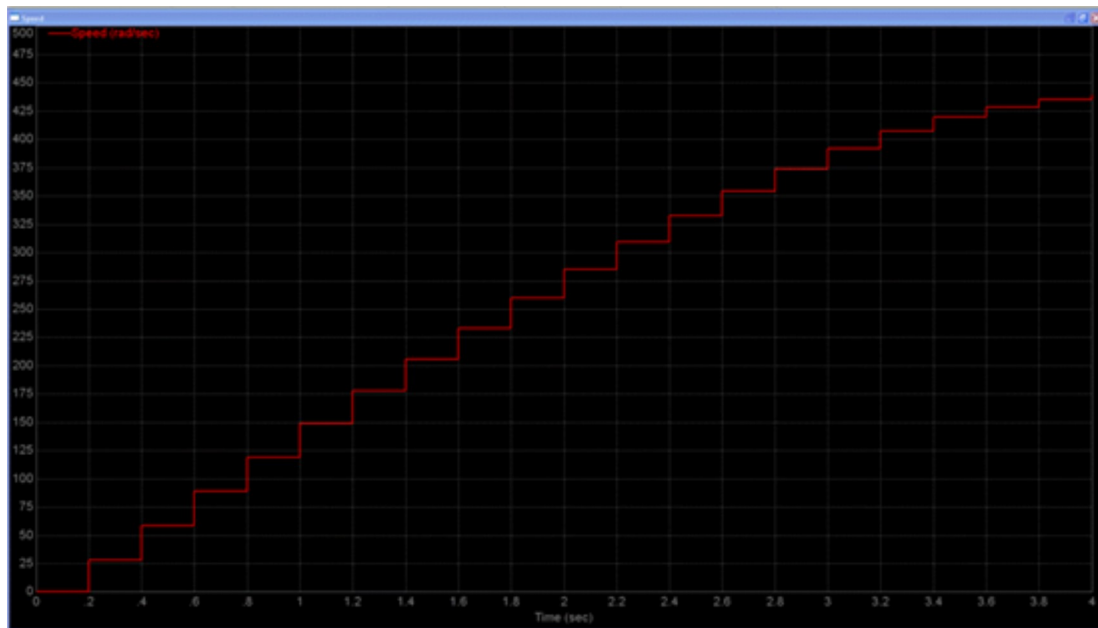
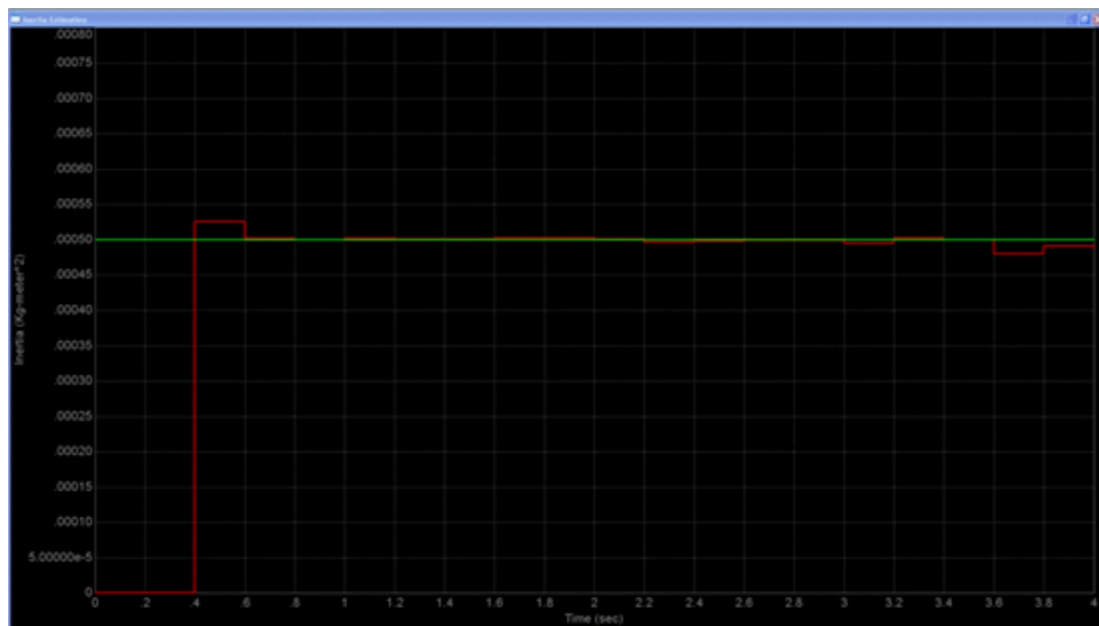

Figure 3. Simulated Speed Samples of a Fan Controller with Fixed Inertia
Figure 4. Estimated vs. Actual Values of System Inertia as a Function of Time
3. As the motor is ramping up to speed, periodically sample and record the values for motor mechanical speed ($\omega(n)$ in rad/sec) and also the motor torque ($T_1(n)$ in Newton-meters). Both of these measurements are outputs from the FAST observer. The motor torque should be pretty consistent since I_q is constant, and the motor speed should monotonically increase for a well behaved load. For example, figure 3 shows the simulated samples of the speed output from the FAST observer for a permanent magnet motor driving a fan load with fixed inertia. The sampling frequency is 200 mS over a 4 second span, resulting in a total of 20 samples.
Figure 4 shows an example inertia plot using equation 1 applied to the data from figure 3. The estimated values are plotted in red at each time step along with the actual load inertia in green. In this particular scenario, the inertia is constant and the torque ripple is zero, making it the best condition to estimate inertia. As you can see, the results are most accurate for the range in figure 3 where the acceleration is fairly constant. In this case you would simply time-average those inertia estimates to come up with a single value for system inertia. But what if you have excessive torque ripple, such as a compressor load? In that case, you can think of the torque ripple as unwanted noise in the system. To maximize the signal-to-noise ratio, you should set the q-axis current as high as possible to increase the ratio between the T_1 and T_2 torque readings. It would also help to do a time average of the steady-state torque readings at each velocity point.